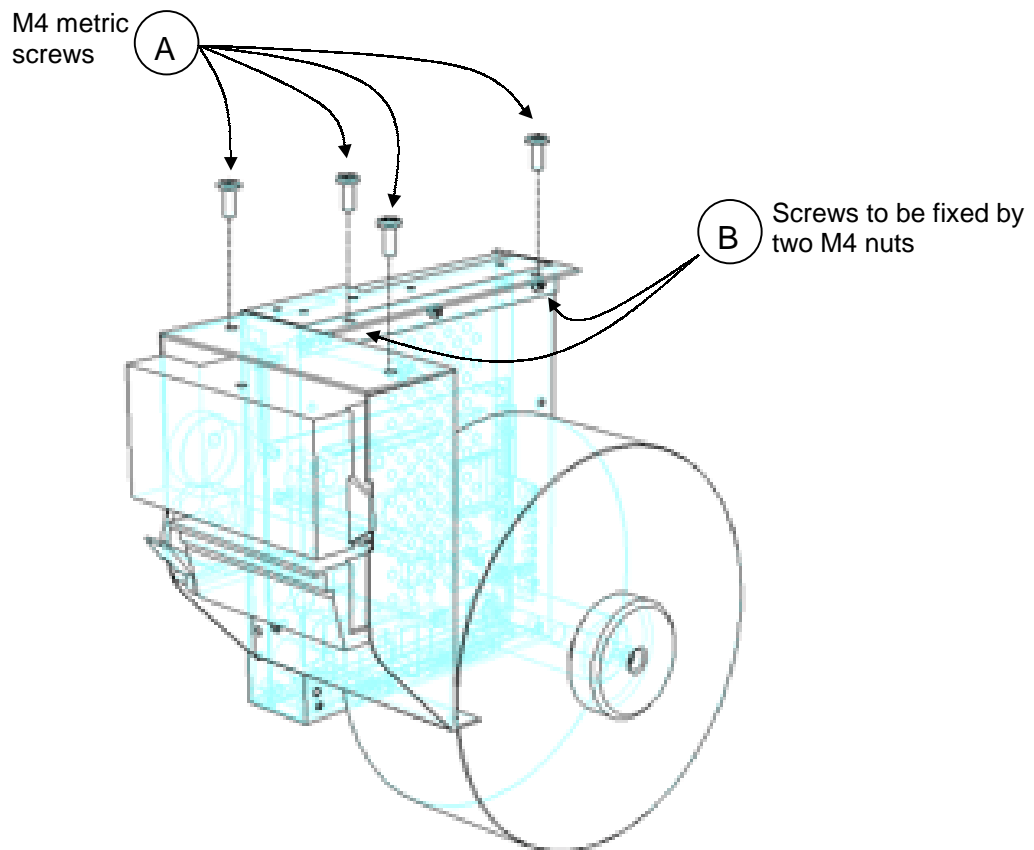

Fig. 2.1- Fixing the TK41T.
- Fix the TK41T to the chassis by screwing putting four metric screws (M4 / L10 mm) through the holes marked with A in **fig. 2.1- Fixing the TK41T**.